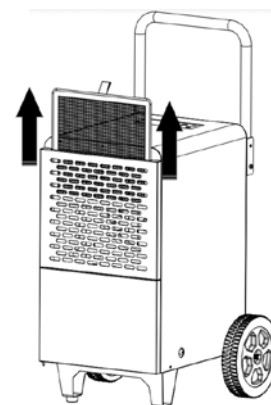

Fig. 11
- Remove the air filter (fig. 11).